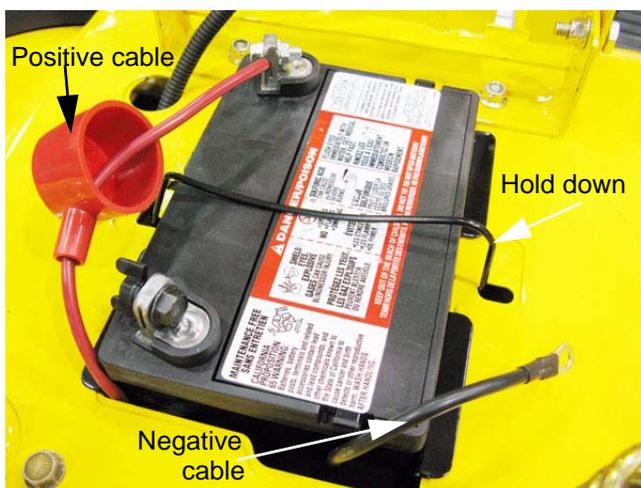

Figure 4.19
- 2a. Disconnect the positive battery cable from the battery (the negative battery cable was disconnected in an earlier step). See Figure 4.19.